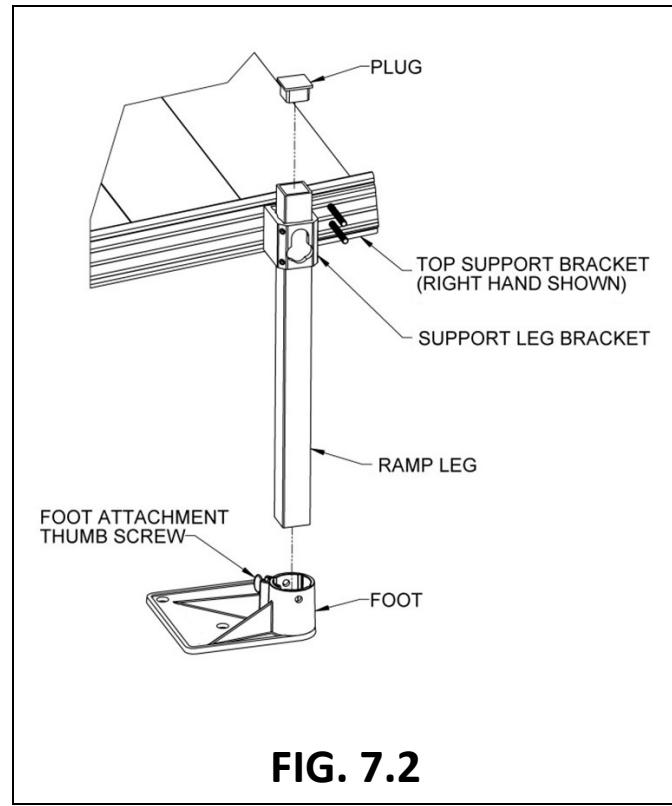

FIG. 7.2
- 7.1.3. Install and level Support Leg Brackets on the two shorter studs of the top support bracket in the same manner described in SECTION 3.3 (FIG. 7.2).
- 7.1.4. Locate the appropriate HARSLxxPR (SUPPORT LEG PAIR where xx denotes the leg length) for the location and install it in the same manner described in SECTION 3.3 (FIG. 7.2).